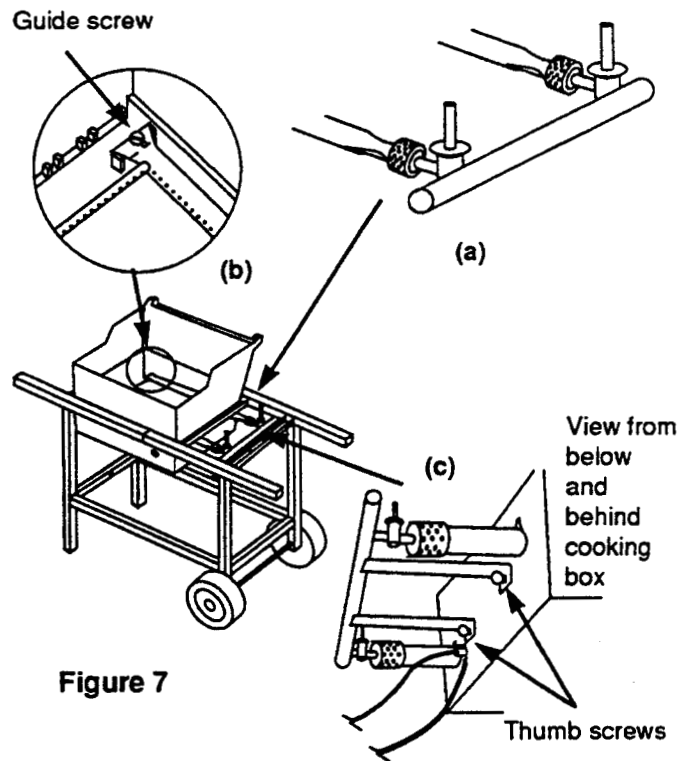

Figure 7
- Do the valves fit into the ends of the burners? Figure 7 (a).
- Are the ends of the burners under the screws at the left rear and left front of the cooking box? The screws are only guides. Do not tighten. Figure 7 (b).
- Are the thumb screws under the burner assembly hand tight? Do not tighten with pliers. Figure 7 (c).